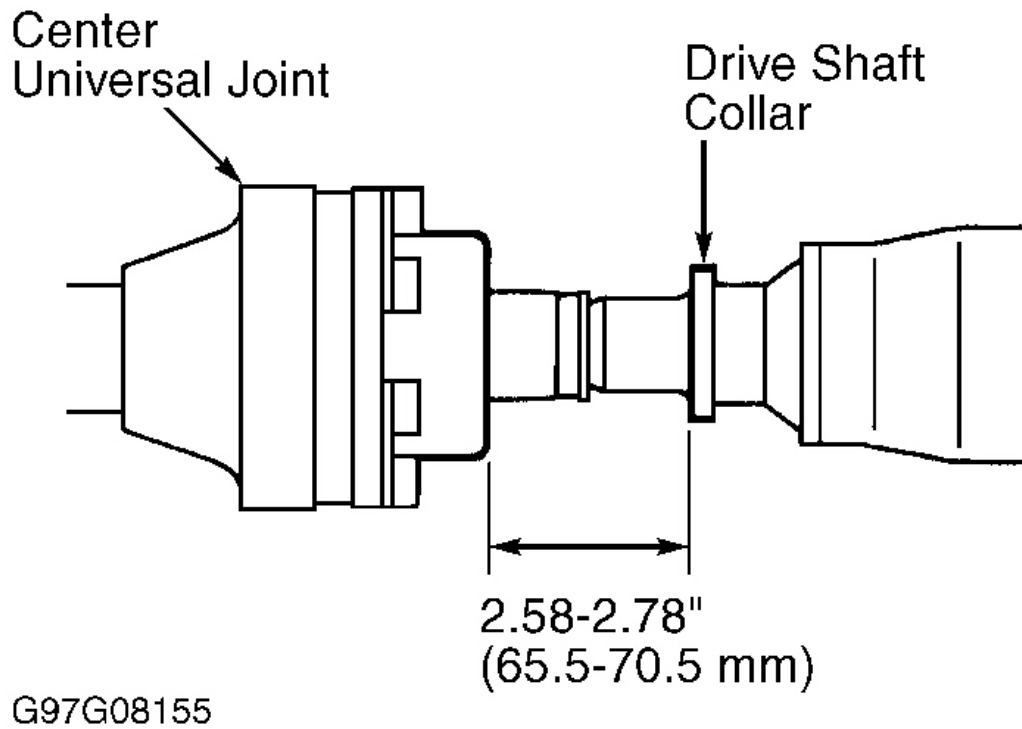

Fig. 2: Adjusting Dimension Between Rear Side Of Center Universal Joint & Shaft Collar
7. With vehicle in unladen condition, adjust dimension between rear side of center universal joint and rear drive shaft. See **Fig. 2** .